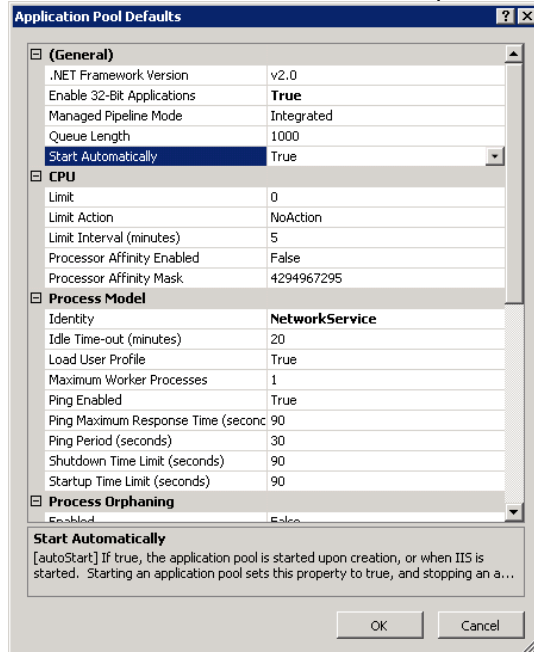

Figure 2 - IIS DefaultAppPool parameters
- a. Under section **(General)** , and if Bounce Manager is running on a 64-bit system, please set **Enable 32-bit Applications** to **True** – see Figure 2 below.